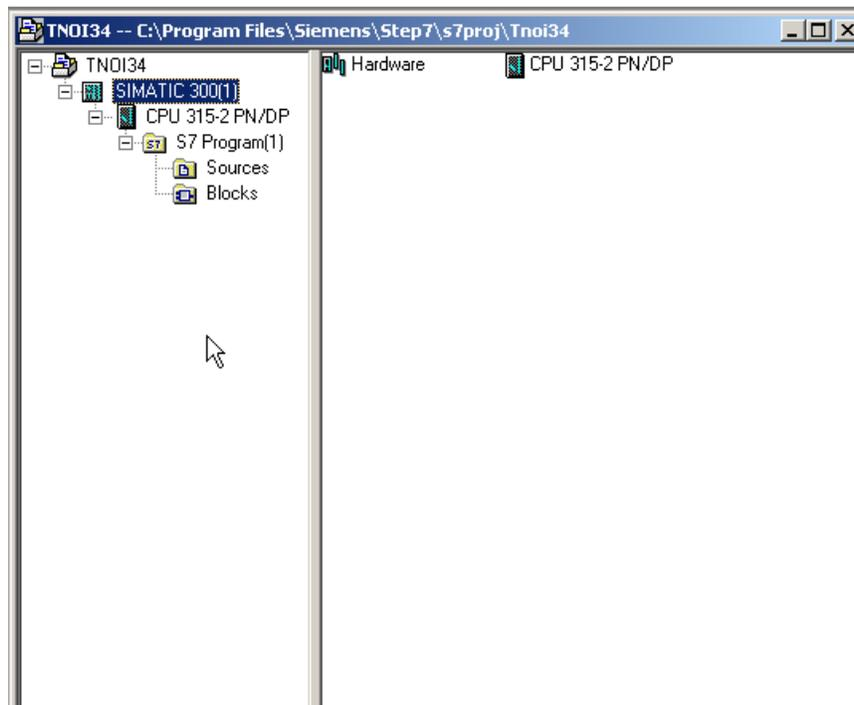

Figure 9.
1. Start SIMATIC Manager and follow the wizard to create a new project. This example uses a CPU315-2DP and a CP343-1. Once created, the project browser should look similar to Figure 9.